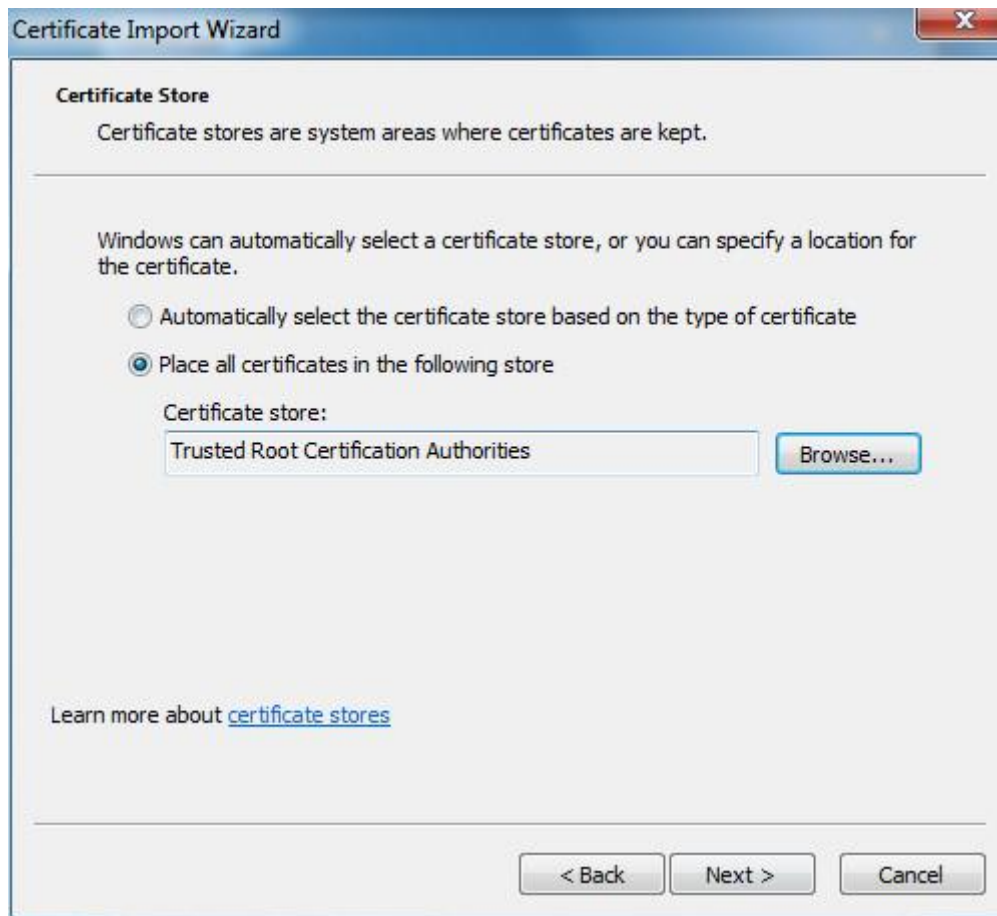

Figure 4-53
3. Click "Next" and the system will display the interface of certificate store, which is shown in Figure 4-53.